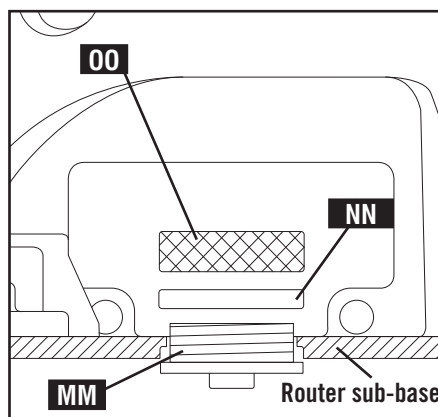

Fig. C20
When installing template guide (MM) Fig. C20, be sure to place O-ring (NN) over the template guide before attaching the lock nut (OO). The O-ring helps secure the template guide's lock nut during operation. If the lock nut becomes loose, a poor-fitting joint can result.